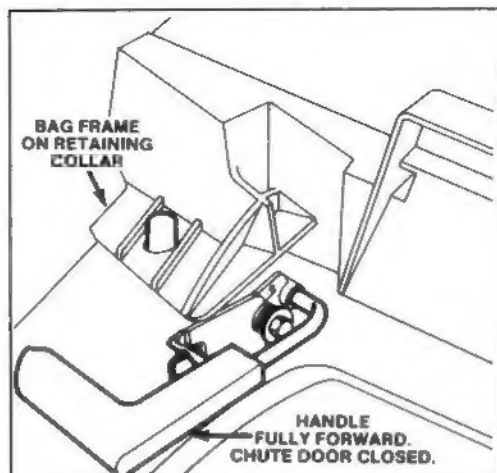

Figure 5
4. **MULCHING**—In summer when grass grows slower and is drier, mulch by removing the grass bag and closing the discharge door (Fig. 5).
5. EMPTYING BAG--Release control bar and wait for blade to stop. For protection, always keep hands and feet away from mower housing when engine is running. Move chute door handle forward to engage the locking pin with catch (Fig. 5). Grasp handle at front and rear of bag and lift bag off mower. Gradually tip bag forward to empty clippings.